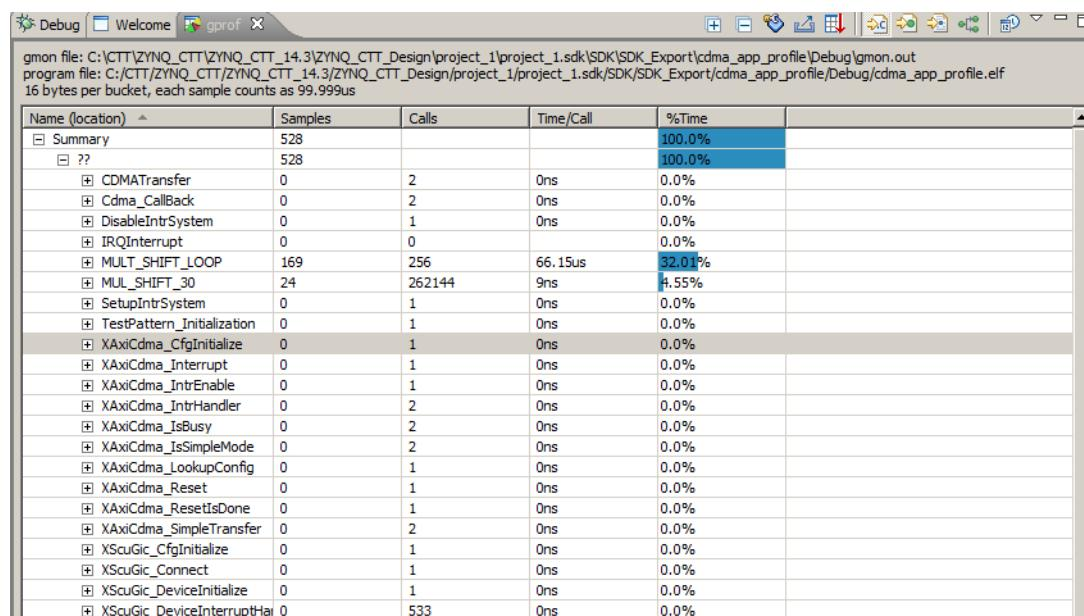

Figure 7-10: Viewing the gmon.out file
12. Click **OK** to open the profiling results (gmon.out) in a gprof tab in the right window area. It looks similar to Figure 7-10.